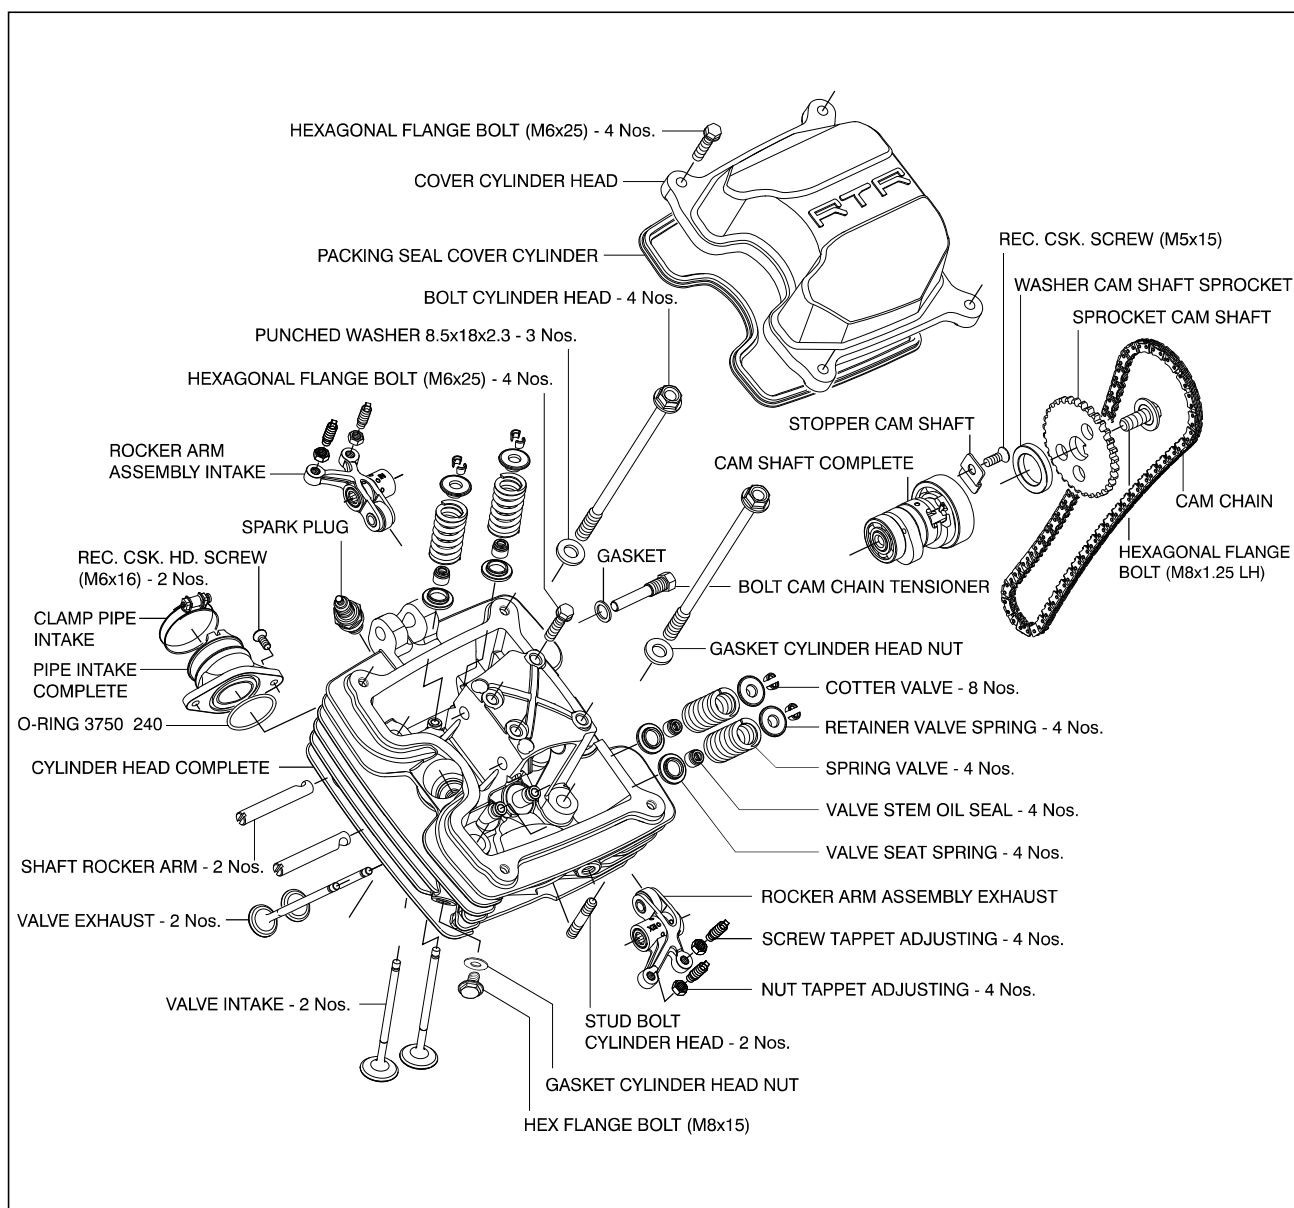

Fig. 3.75
- For reassembly, reverse the disassembly procedure while taking care of the following instructions. Refer exploded view of cylinder head assembly for assembly details. (Fig. 3.75)